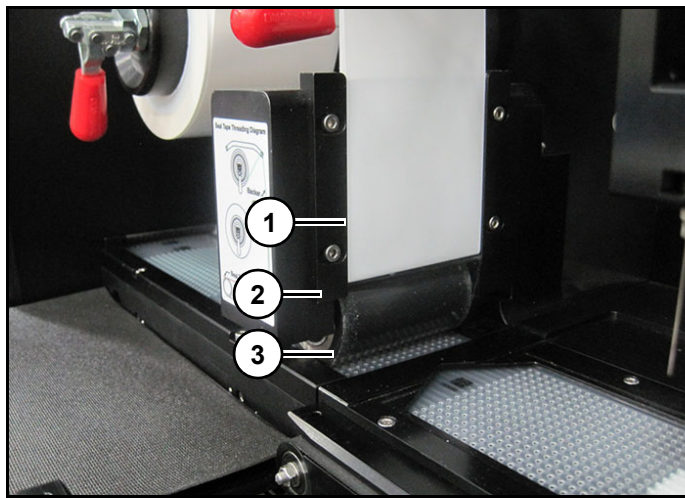

Figure 9
10. Feed seal tape (1) under seal tape guide (2) and Nip Roller (3). (Figure 9)